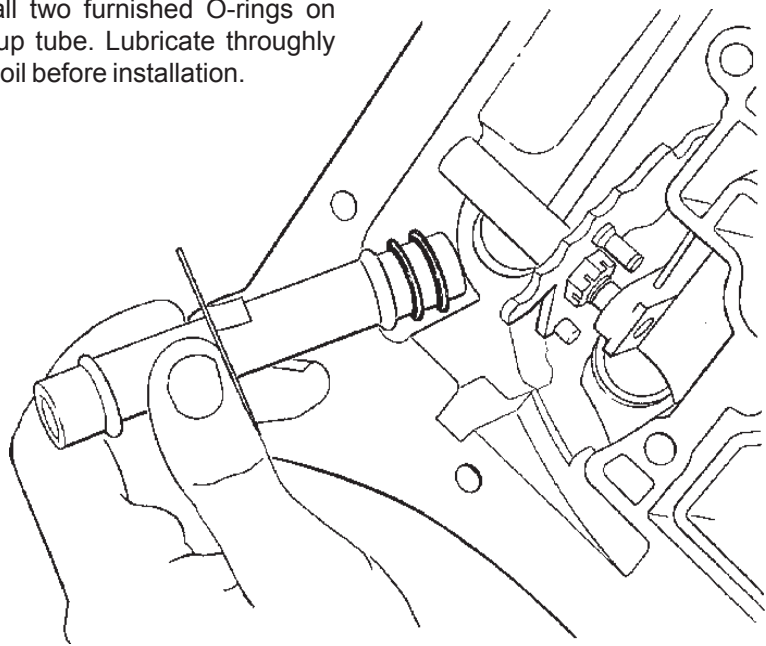

Figure 14
STEP 15. Install two filter O-rings on filter pick-up tube (**See Fig. 14**). Lubricate O-rings with clean ATF then push pick-up tube and filter assembly up into transmission. On 1968 and later models install filter spacer (if present) and shoulder bolt then torque to 10 lb.ft (13.6 Nm).